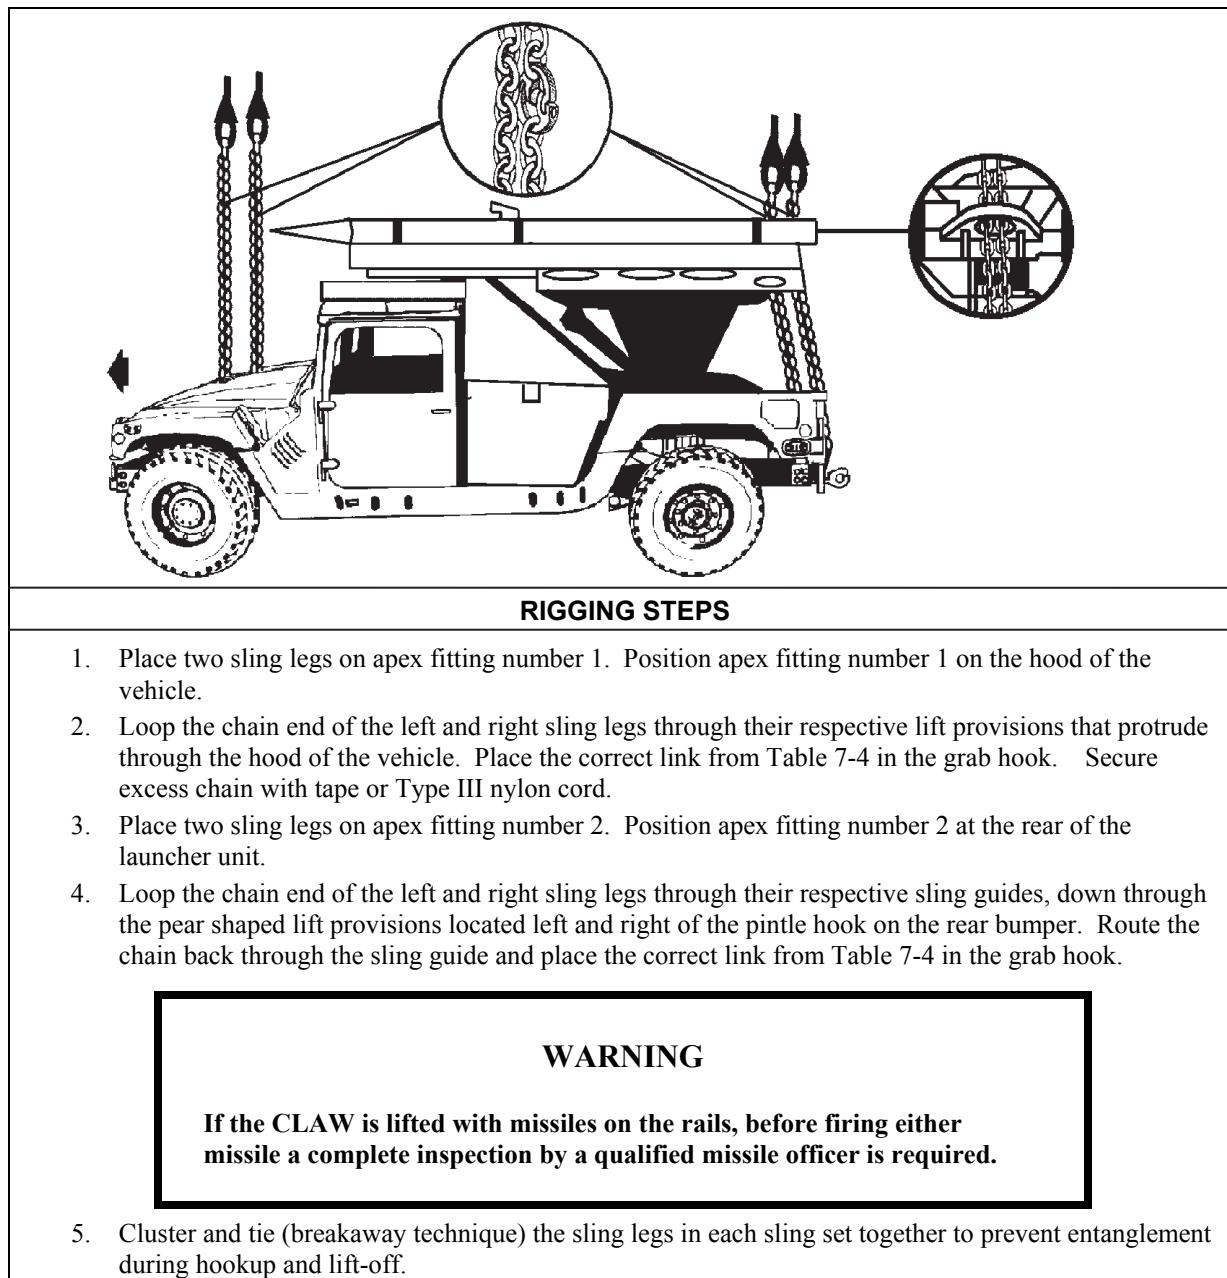

Figure 7-4. M1097A2 Truck, 1 1/4-Ton with Complementary Low Altitude Weapons System
- **Rigging.** Rig the load according to the steps in Figure 7-4.